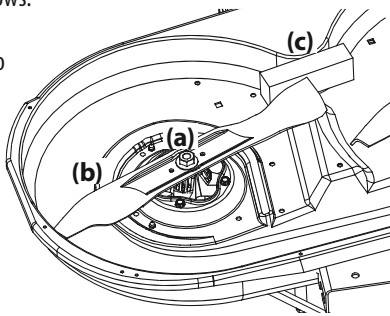

Figure 50
2. Use a $\frac{15}{16}$ " wrench to hold the hex nut on top of the spindle assembly when loosening the hex nut (a) securing the blade (b). A block of wood (c) may be placed between the deck housing and the cutting edge of the blade (b) to help in breaking loose the hex nut (a) securing the blade. See Figure 50.